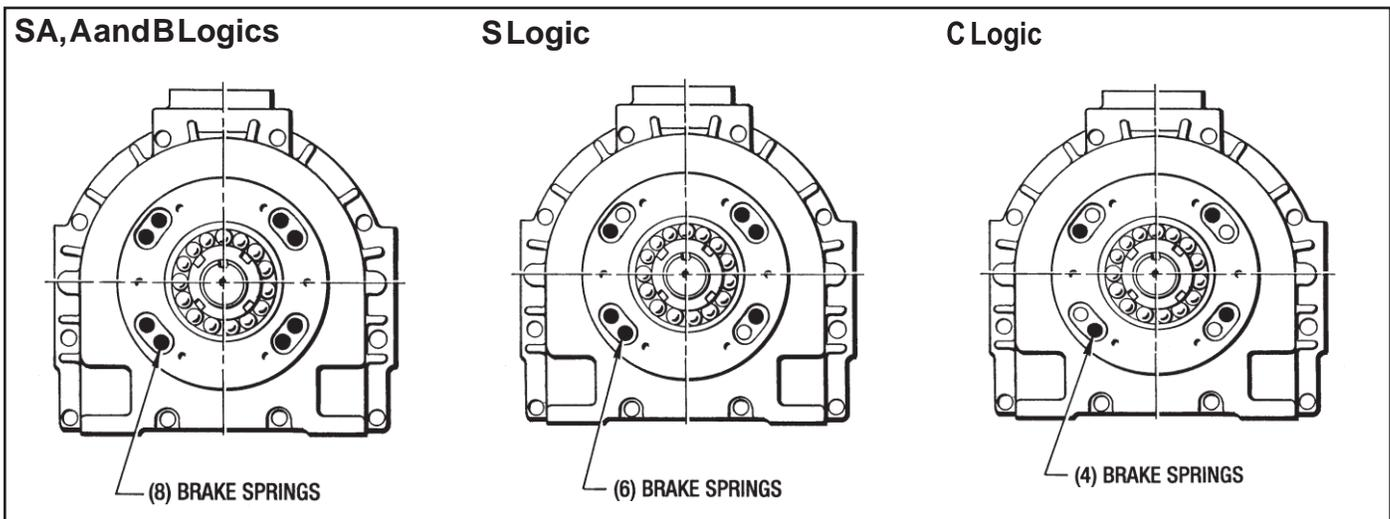

Figure 9.7 - Spring Placement and Quantities
5. Remove the (2) Screws (#151) previously installed in the Piston for alignment. Reinstall the proper amount of Sleeves (#30), Springs (#36), Washers (#264) and Screws (#151). (See Figure 9.7 for placement and quantities needed for the different logics.)